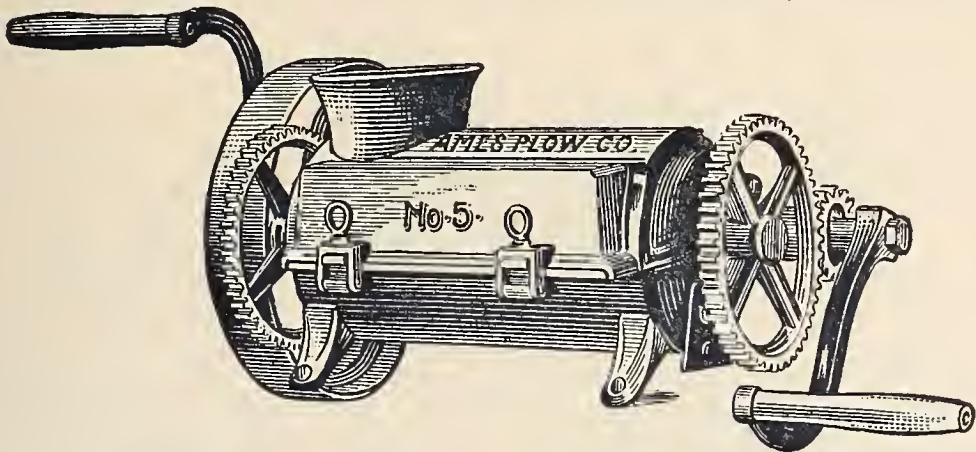

Fig. 471.—Meat-Cutter, No. 5, Double Geared.
**Meat-Cutter, No. 5**, represented by *Fig. 471*, is the largest rotary cutter in the market. This machine is double geared, and furnished with a driving-pulley and